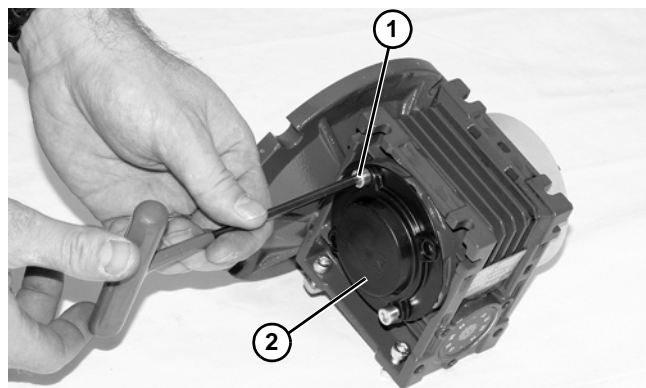

Figure 29
4. Remove two (2) screws (**Figure 29, item 1**) and detach output shaft cover (**Figure 29, item 2**).